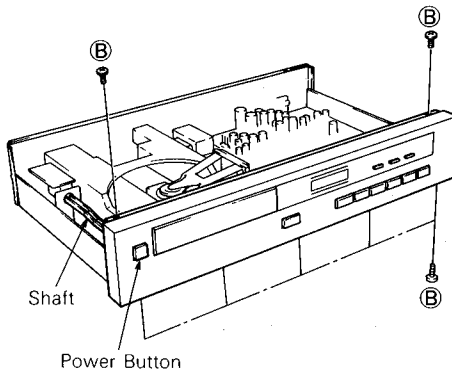

Fig. 2
- Remove 7 screws (B) fastening the Front Panel Assembly, then release the catches located on both sides of the chassis. (Fig. 2)